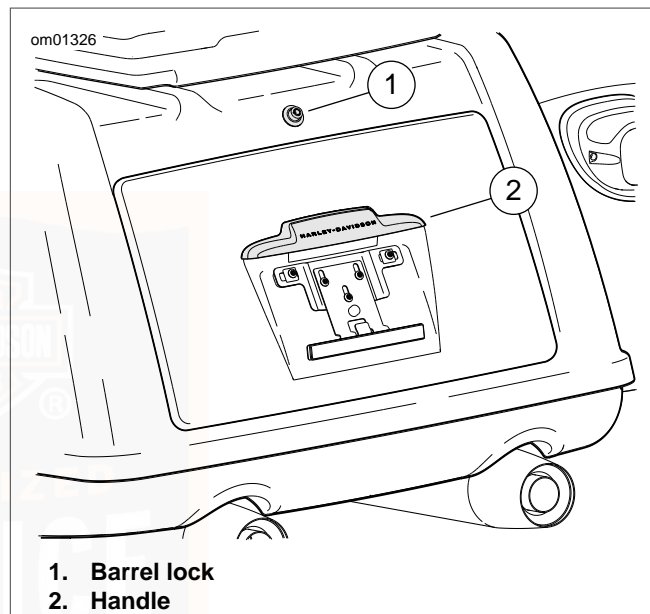

Figure 17. Trunk
2. See Figure 17. Push in the barrel lock to unlatch door. Pull handle to open trunk door.